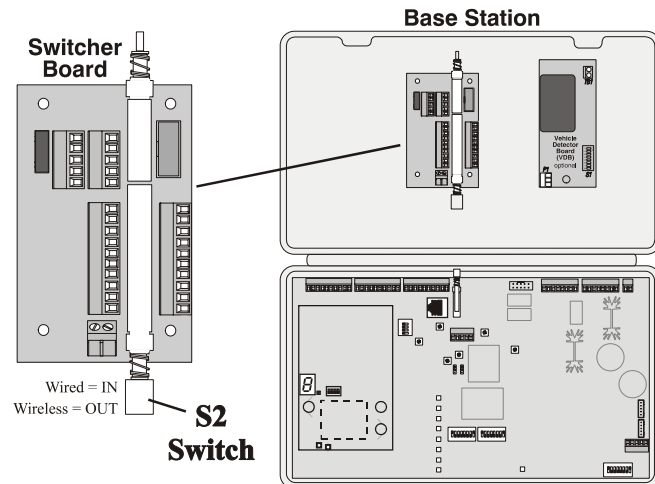

Figure 10. S2 switch on Switcher Board
- Look for the Switcher Board shown in Figure 10. If there is no Switcher Board, it will not be possible to use a wired backup system.